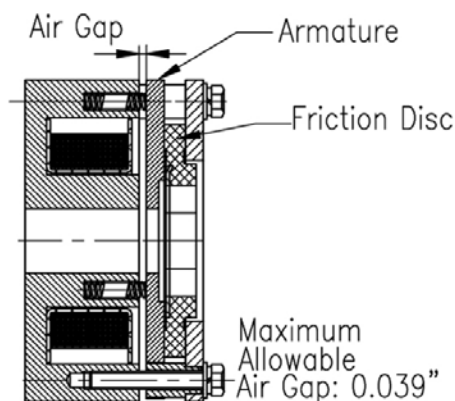

Figure 11
3. Check for worn brake disc by measuring the brake air gap with a feeler gauge (Figure 11). A brake gap larger than the allowable wear limit – 0.039" – may cause chatter or failure to release.